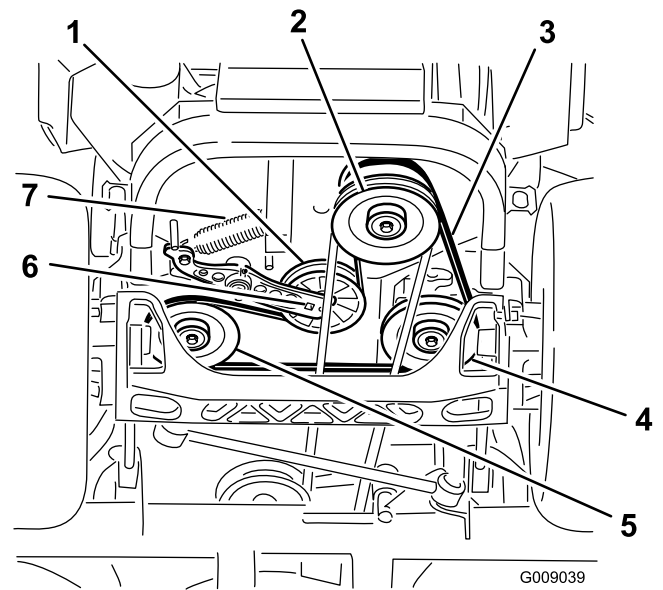

Figure 75
5. Use a ratchet in the square hole in the idler arm to remove the idler spring (Figure 75).
6. Unhook the idler spring from the frame (Figure 75).
9. Using a ratchet in the square hole in the idler arm, install the idler spring to the frame (Figure 75).